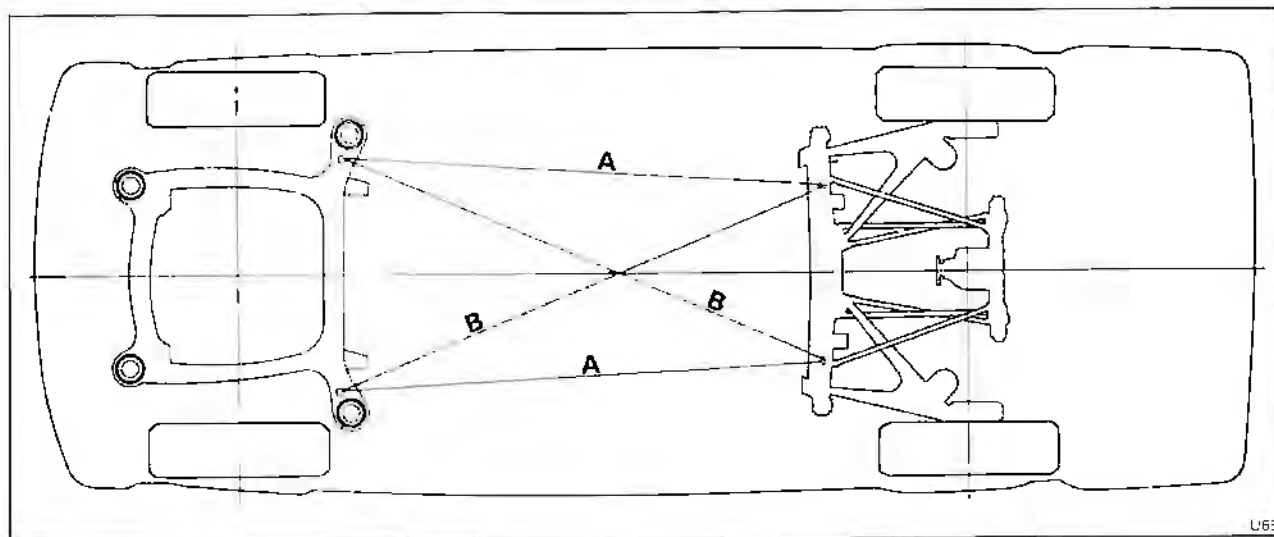

Fig H3-14 Sub-frame alignment
6. Centralize the sub-frame by utilizing the movement in the body mounting bobbins. To check the sub-frame position, diagonal and parallel measurements should be taken between the jig location points situated on the front and rear sub-frames (see fig. H3-14). With the sub-